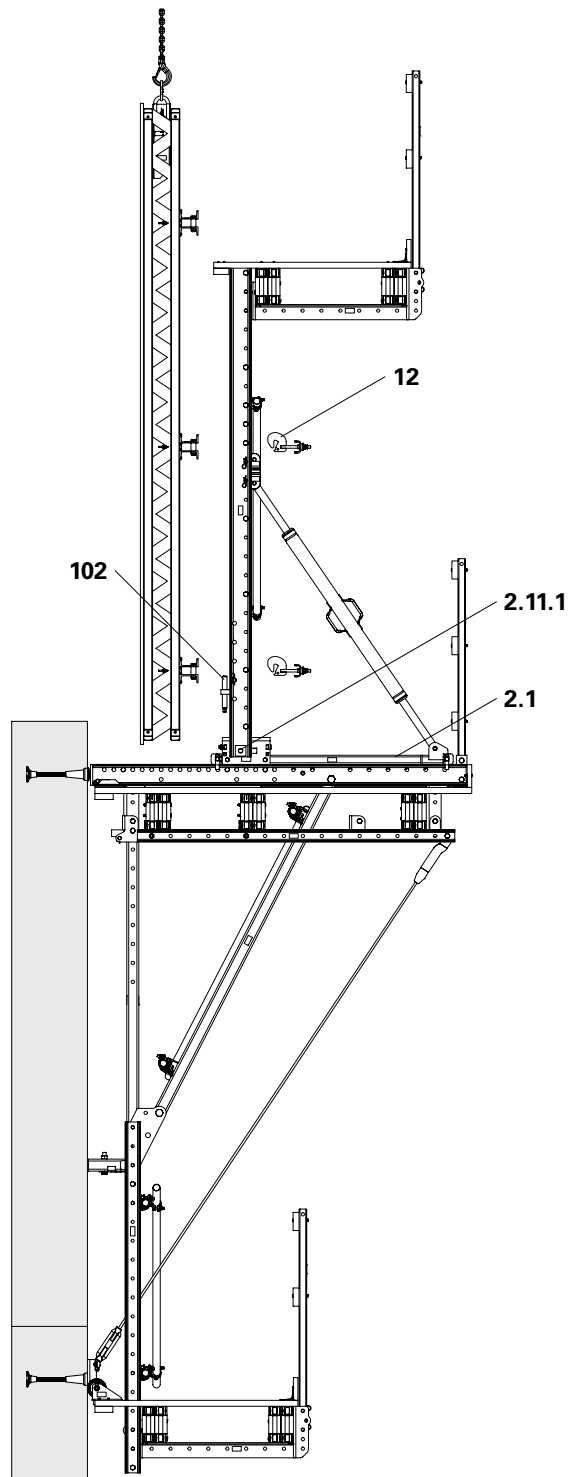

Fig. B3.07
1. Open all Waler Fixations U100-120 (12) and dismantle.
3. Adapt or offset the Height Adjustment Unit (102) for the new formwork element.
6. Insert Waler Fixation U100-120 (12) and clamp the formwork element against the strongback.
9. Align formwork (see Section B4). (Fig. B3.07)